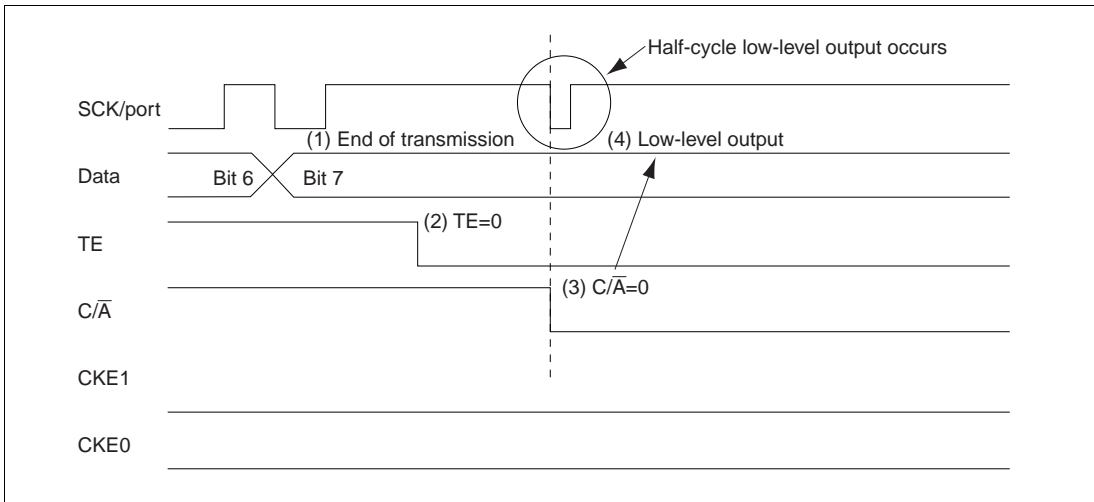

Figure 11-23 Operation when Switching from SCK Pin Function to Port Pin Function
- (1) End of serial data transmission
- (2) TE bit = 0
- (3) C/A bit = 0 ... switchover to port output
- (4) Occurrence of low-level output (see figure 11-23)